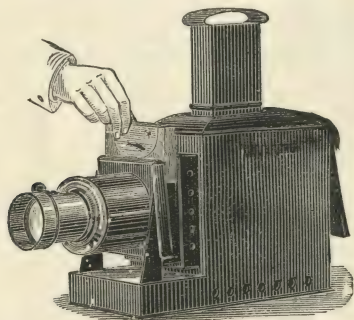

FIG. 9.
body with a metal lining, there being a clear space between the wood and the metal in order to secure proper ventilation. When slides have to be shown, a stage or holder for the slide carrier is necessary, and it must bring the slide as close as possible to the condenser. When experiments in tanks have to be performed, the holder or stage must be open at the top (Fig. 9); when the image of apparatus has to be
* N.B.—It must be distinctly understood that a cheap and simple lantern of the class shown in Fig. 9, is all that is necessary for ordinary class-work. The more elaborate lanterns are described for the benefit of science teachers.